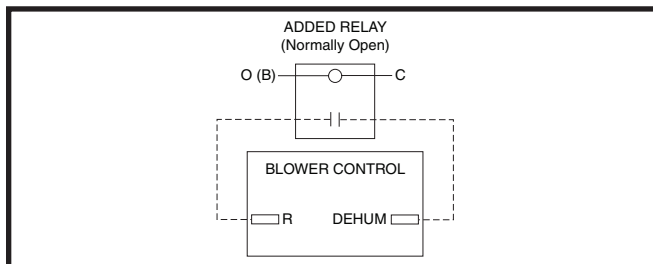

Figure 24. DEHUM Wiring Configuration without Humidistat
- If a humidistat is not available, it is an acceptable option to connect the **R** & **DEHUM** via a field supplied normally open relay. See Figure 24 \(page 24\). The **R** & **DEHUM** terminals should be connected across the normally open relay terminals. The **O (B)** & **C** terminals should then be connected across the relay coil. This option causes the blower to run at a reduced CFM for 10 minutes after a call for cooling.